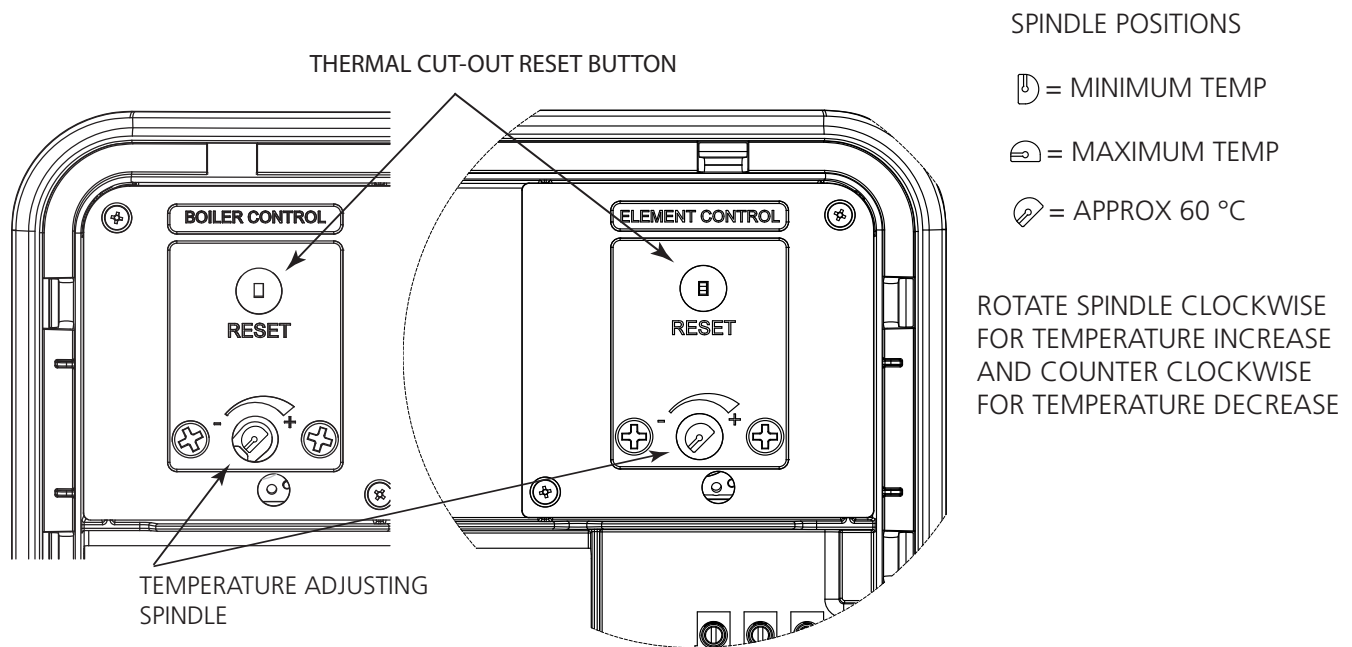

Figure 14: Thermostat adjustment
- ▶ The immersion heater thermostat is factory set at 60°C. Should this require adjustment see Fig 14 for details of how to adjust the temperature setting. Each immersion heater has its own individual thermostatic control. The thermostat incorporates a thermal cut-out that will switch off the immersion heater in the event of a thermostat failure. The thermal cut-out reset button position is also shown on Fig 14.
- ▶ The immersion heater and indirect control thermostats are factory set at 60°C. Should this require adjustment see Fig 14 for details of how to adjust the temperature setting. The immersion heater and indirect controls each has its own individual thermostatic control. The thermostats incorporate a thermal cut-out that will switch off in the event of a thermostat failure. The thermal cut-out reset button position is also shown on Fig 14.
- ▶ If necessary the temperature can be adjusted by inserting a flat bladed screwdriver in the adjustment spindle on front of the immersion heater (ELEMENT) control thermostat and rotating (see Fig. 14 page, 20 for details of how to adjust). The adjustment represents a temperature range of 10°C to 70°C.
- ▶ If necessary the temperature can be adjusted by inserting a flat bladed screwdriver in the adjustment spindle on front of the indirect (BOILER) thermostat and rotating (see Fig. 14, page 20 for details of how to adjust). The adjustment represents a temperature range of 10°C to 70°C.